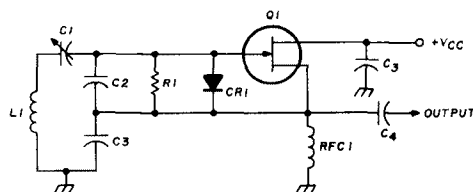
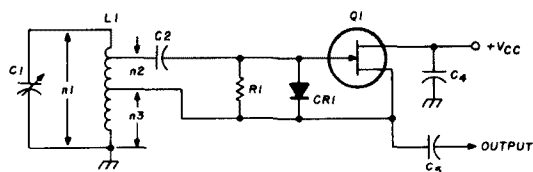

fig. 1. Series-Colpitts oscillator. C1 for tuning. Feedback ratio is determined by C2 and C3. C4 is an rf bypass capacitor and C5 a coupling capacitor.
fig. 2. Hartley oscillator. C1 is for tuning. Feedback ratio is determined by n2 and n3. C2 and C4 are coupling capacitors and C5 is an rf bypass capacitor.
The basic circuits used in my experiments are the series Colpitts (originally known as the Clapp oscillator), **fig. 1**, and, in one instance, the Hartley oscillator, **fig. 2**. The Seiler circuit, not used, is a modification of the series Colpitts. It is, of course, desirable to make the oscillator frequency as stable as possible consistent with cost and size.
The current can be decreased by decreasing the voltage on the agc gate of a dual-gate mosfet (G2 in the 40673). It can also be controlled by changing the feedback ratio, which is C2/C3 in fig. 1, or n2/n3 in fig. 2.
The relationship of feedback-ratio-to-performance is not simple, but fortunately a 1:1 feedback ratio is frequently best. If the resonant-circuit  $Q$  is high enough, isolation can be improved by making C1 relatively small compared with C2 and C3 (fig. 1) or by placing the high n2 tap considerably below the top of L1 in fig. 2. Carrying this procedure too far produces high drain current, noise, parasitic oscillations, or no oscillation.
**Oscillator keying.** If you wish to key a transmitter in the oscillator circuit, a low-current design is desirable to minimize chirp caused by transistor heating when the key is depressed. Conditions for low current frequently mean closer coupling of the transistor to the LC circuit, so that there is a limit to the effectiveness of this way of reducing chirp (e.g., making C3 in fig. 1 too small).
On the other hand some designs with good isolation diminish chirp but introduce slow drift because of high current (e.g., making C3 in fig. 1 too large). However, another factor makes direct keying undesirable. A key-click filter usually entails RC circuits with slow time constants. Charging and discharging of the capacitors produces transients in the dc voltages across the transistor terminals, causing frequency shift and, hence, chirp, as the voltage rises and falls.